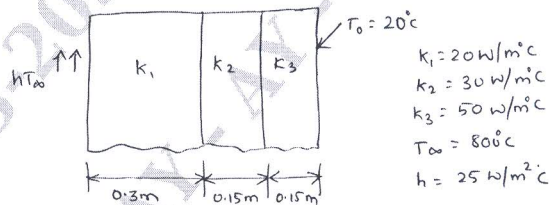

Fig.Q9(a)
- 9 a. Using Penalty approach of handling boundary condition, solve for temperature distribution in composite wall as shown in Fig.Q9(a).